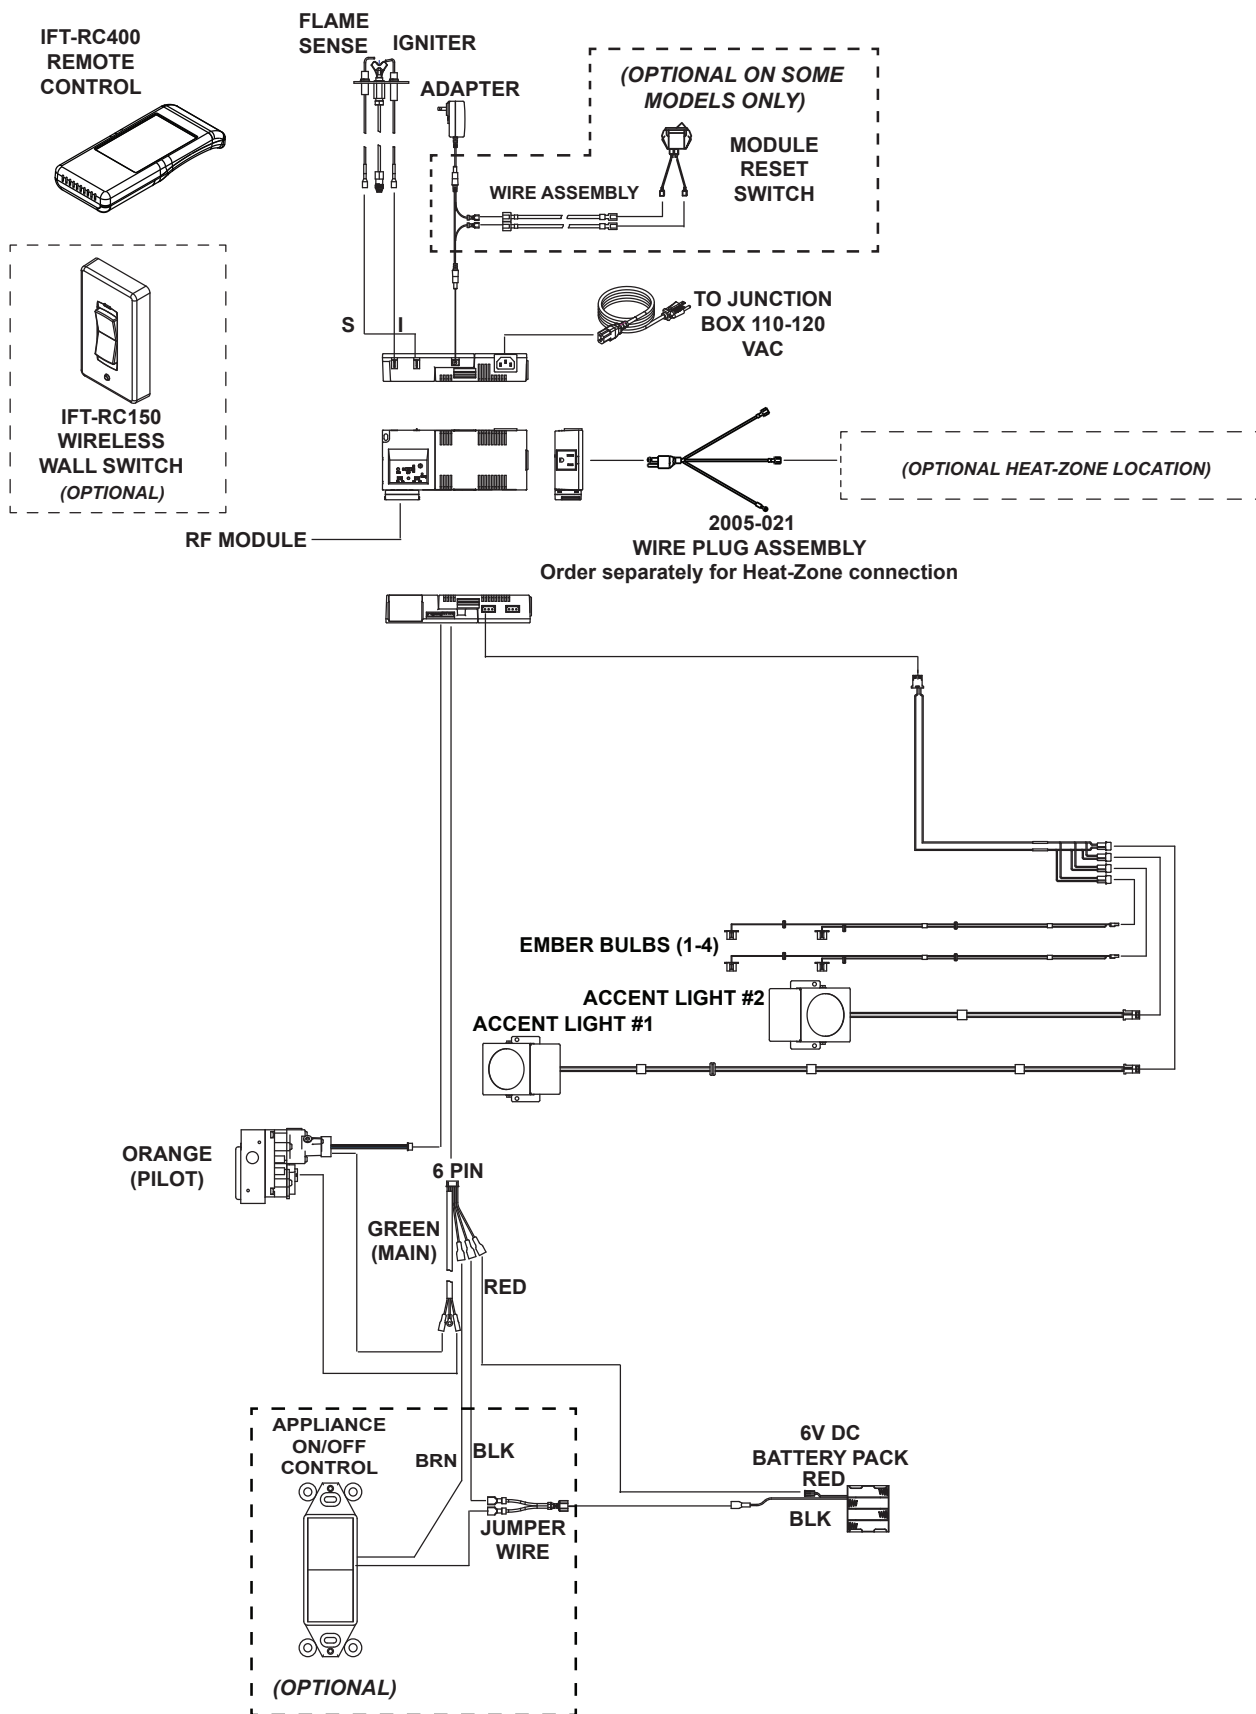

Figure 8.2 IntelliFire Touch Wiring Diagram
- Refer to Figure 8.2, IntelliFire Touch (IPI) Wiring Diagram.